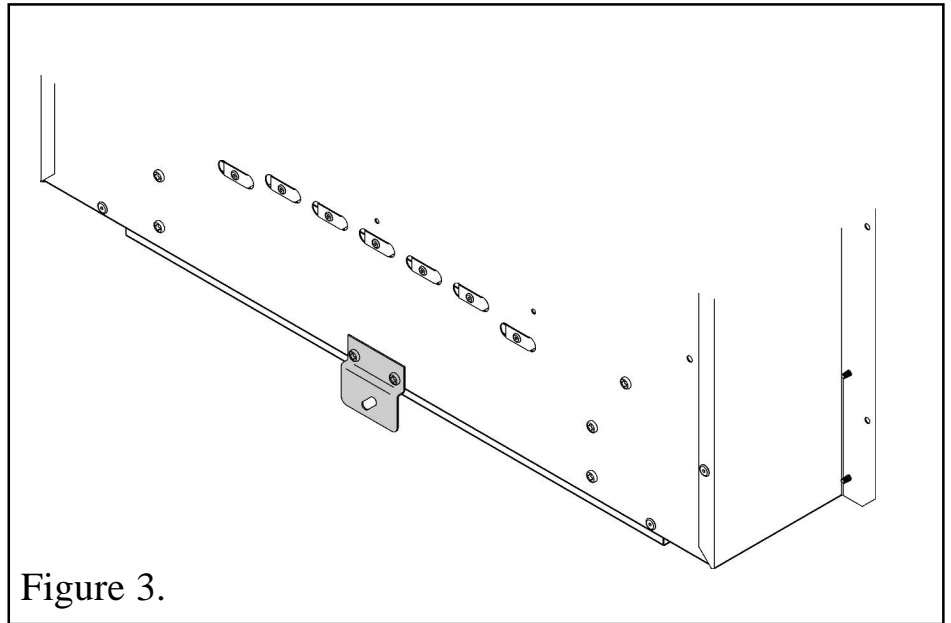

Figure 3.
1. There is a Lower Support bracket supplied with the heater. Secure this to the rear base of the heater with the two screws supplied (See figure 3).